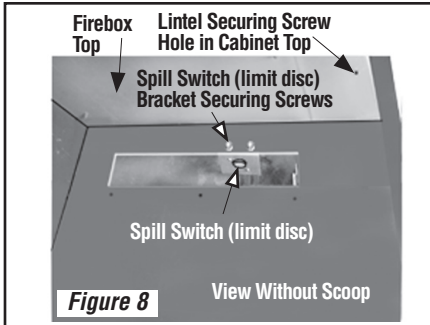

Figure 8
- 4 - Remove the spill switch bracket securing screws (2), and pull the switch/bracket assembly, with low voltage wires attached, through the side panel slot into the firebox. See Figure 8.